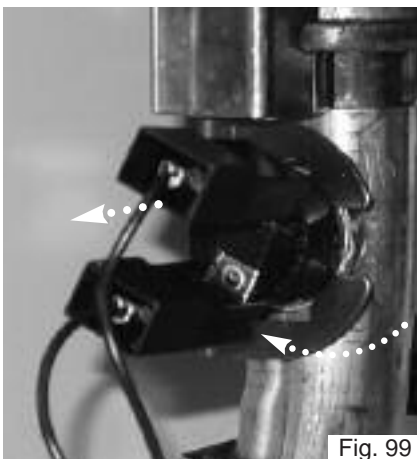

Fig. 99
2. Pull off the connections. Then remove the thermostat from the pipe by releasing its securing clip (see Fig. 99).